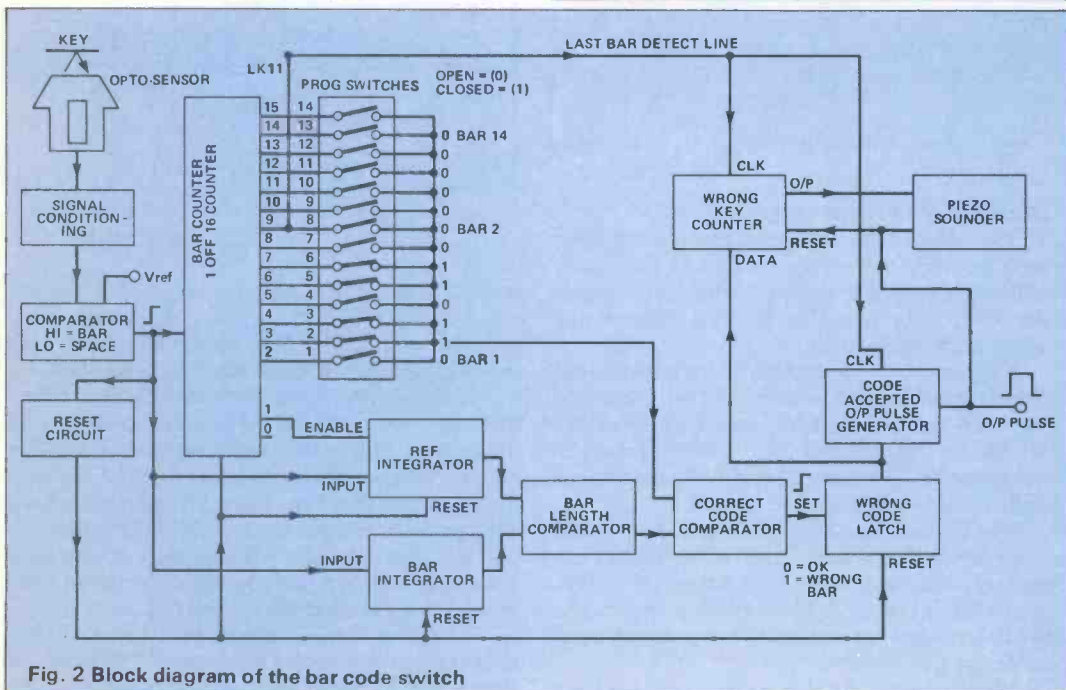

Fig. 2 Block diagram of the bar code switch
The operation of the bar code switch can best be understood by looking at the block diagram in Fig. 2. The optical sensor consists of a LED which emits light onto the surface being scanned. Light will be reflected back to its receiver from white spaces. The output from this is amplified and filtered before being compared with a reference voltage (by the *bar comparator*) to determine whether a bar or space is present. Its output will be low (0) for a space and high (1) for a bar.